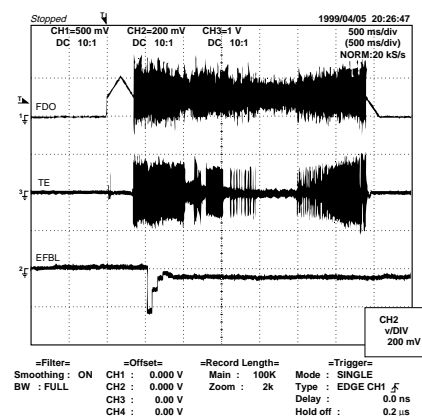

Figure 12-2
- (1) Offset adjustment (The offset voltage between the head amplifier output and the VREF reference voltage is compensated inside the IC.)
- (2) Tracking balance adjustment (waveform drawing Fig.12-2 EFBL)
- (3) Gain adjustment (The gain is compensated inside the IC so that the loop gain at the gain crossover frequency will be 0 dB.)